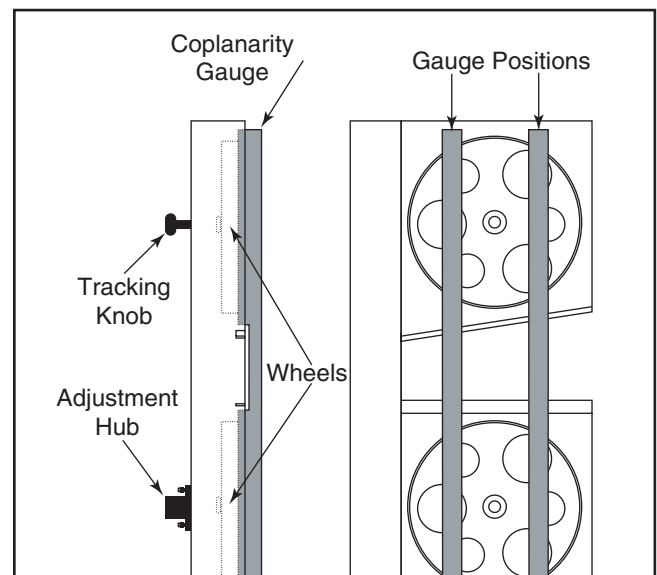

Figure 102. Checking for coplanarity.
7. Place your coplanarity gauge up against both wheels in the positions shown in **Figure 102**.